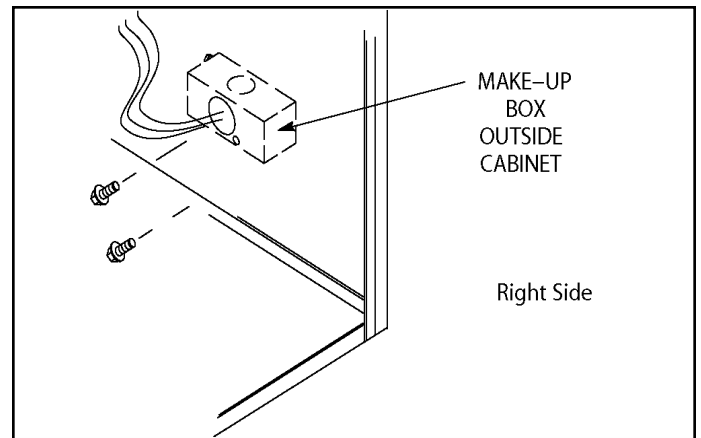

Figure 50. Interior Make-Up Box Installation
1. Gas piping may be routed into the unit through either the left or right hand side. Supply piping enters into the gas valve from the side of the valve as shown in Figure 50.
3. Gas piping must not run in or through air ducts, clothes chutes, chimneys or gas vents, dumb waiters or elevator shafts. Center gas line through piping hole. Gas line should not touch side of unit. See Figure 50.